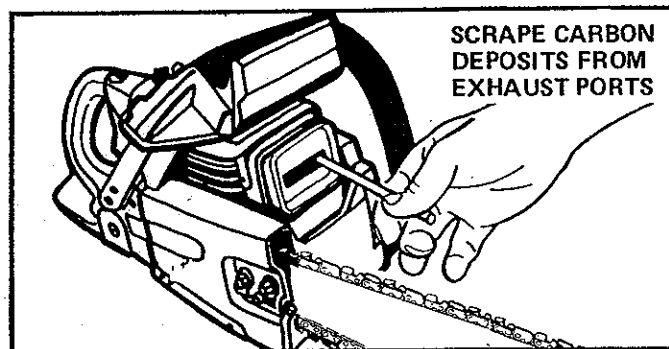

Figure 41
- Scrape the carbon deposits from the exhaust ports and surrounding exhaust chamber using a hardwood stick. Figure 41.